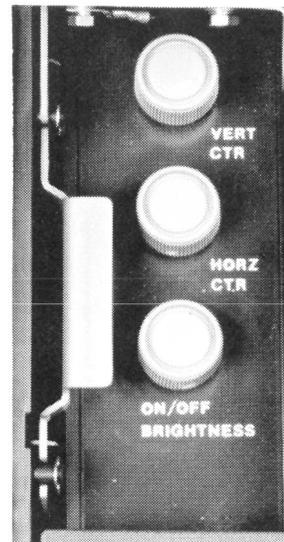

Figure 7 - Display Adjustment and ON/OFF Controls
4.06 If any of the conditions in 4.05 do not exist, they should be corrected by use of the display adjustment controls (Figure 7). If the condition still exists, refer to Section 578-101-700 for further adjustments.